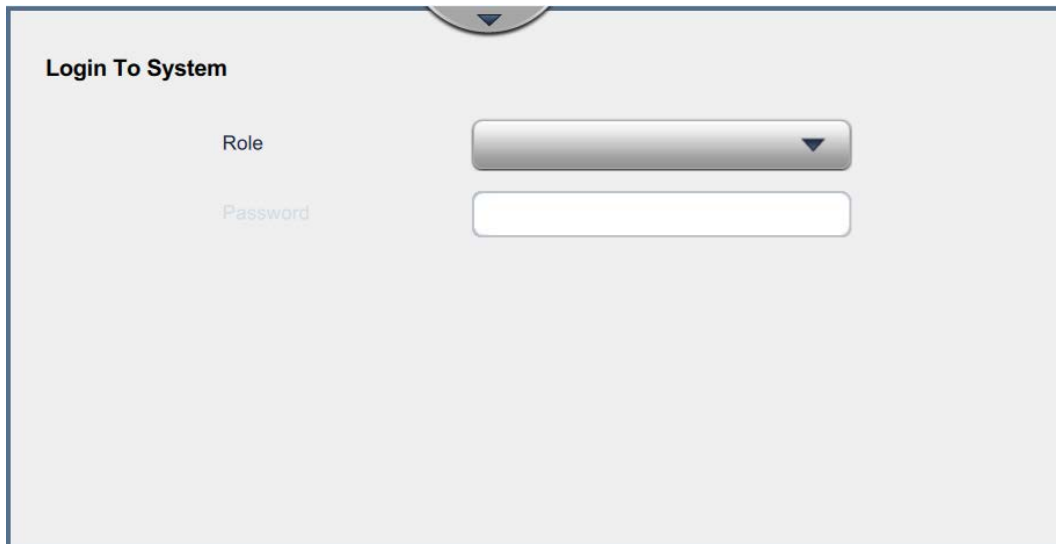

Figure 7-14: Login to System Screen
2. The Login to System screen appears as shown in Figure 7-14.